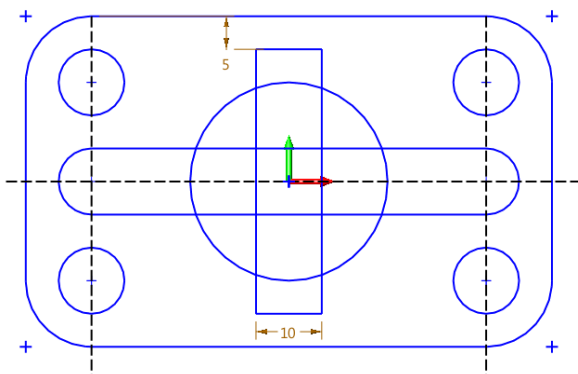

Figure 144 Rectangle
STEP 06 Create a rectangle whose center is the datum and width is 10 mm. And set the dimensions (5 mm and 10 mm) as shown in Figure 144. To get a clear sketch, you can turn off the previously added constraints and blank some dimensions.